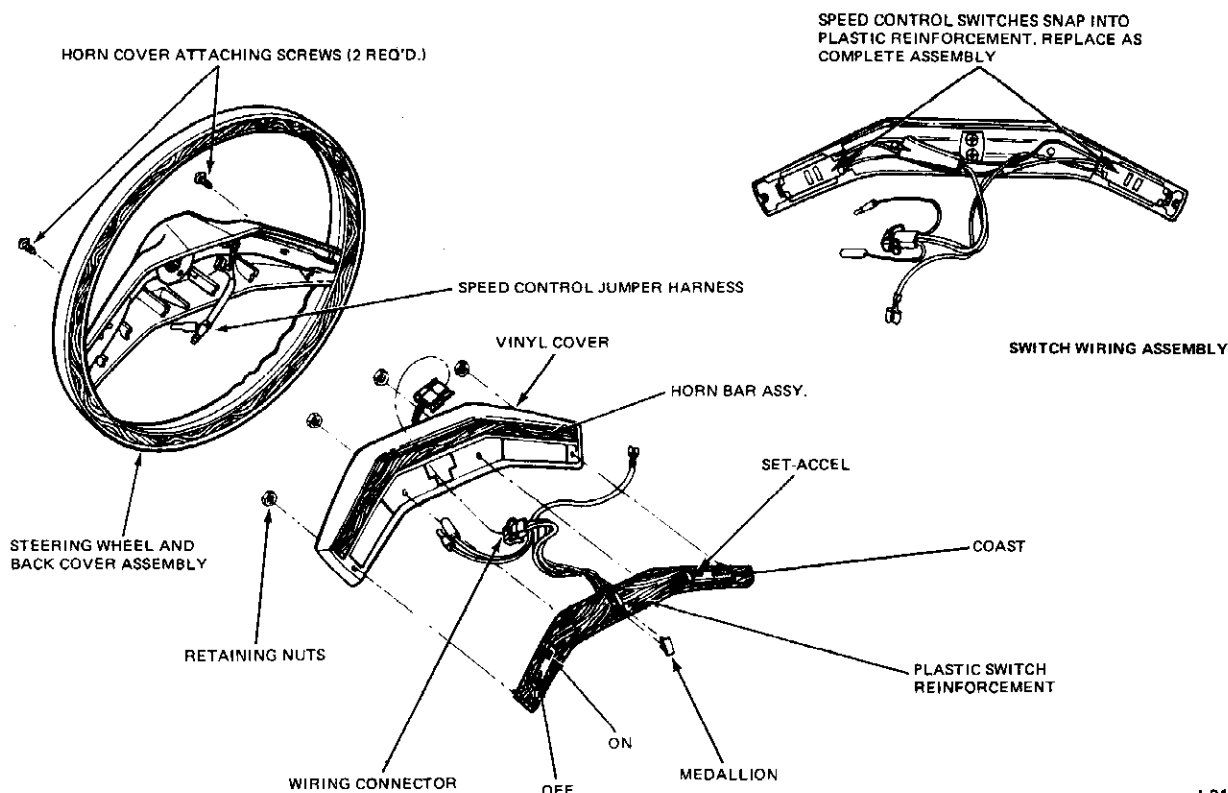

FIG. 13 Speed Control Switch Removal and Installation
3. Attach the wires to the steering wheel hub and the high foam pad to the steering wheel with the two retaining screws (Fig. 13).